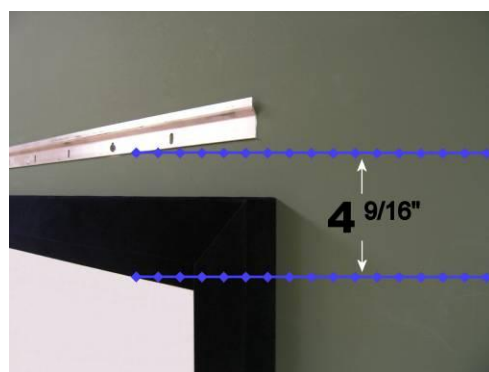

Figure 7
Step 6 - The BOTTOM of the wall bracket [part G] should be mounted $4 \frac{9}{16}$ " above the top of the **VIEWING SURFACE** of your screen as pictured in Figure 7. You will need to subtract the width of your screen's frame members from $4 \frac{9}{16}$ " in order to determine the wall bracket mounting position. For example, if you have a projection screen with a top frame member that is $3 \frac{1}{4}$ " wide (like our Criterion Series frame, Stewart Filmscreen's Luxus Deluxe frame, or Da-Lite's Cinema Contour frame), then the BOTTOM of the wall bracket should be mounted $1 \frac{5}{16}$ " above the top of the screen's frame ($4 \frac{9}{16}$ " - $3 \frac{1}{4}$ " = $1 \frac{5}{16}$ "). Once you have computed the correct location, mark this location on your wall with a pencil.